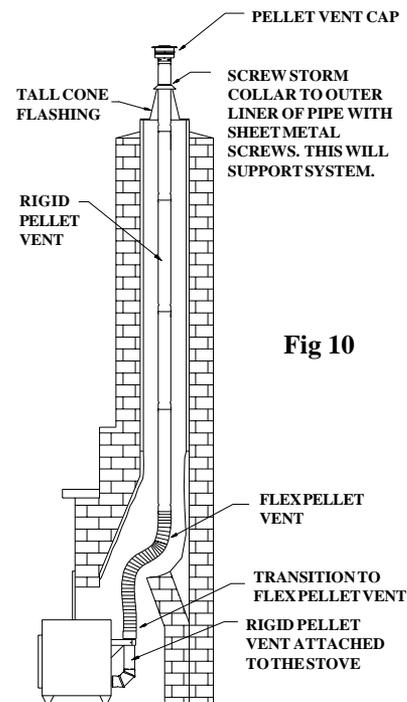

Fig 10
8. In making the connection at the appliance, configurations other than the one shown in Figure 10 may be made. It may be necessary to contact the manufacturer of the unit to determine exactly what may or may not be done to make the correct connection. Some typical arrangements are shown in Figures 11 and 12. A Pipe Adaptor may be needed, depending on the exit size of the stove or insert collar.